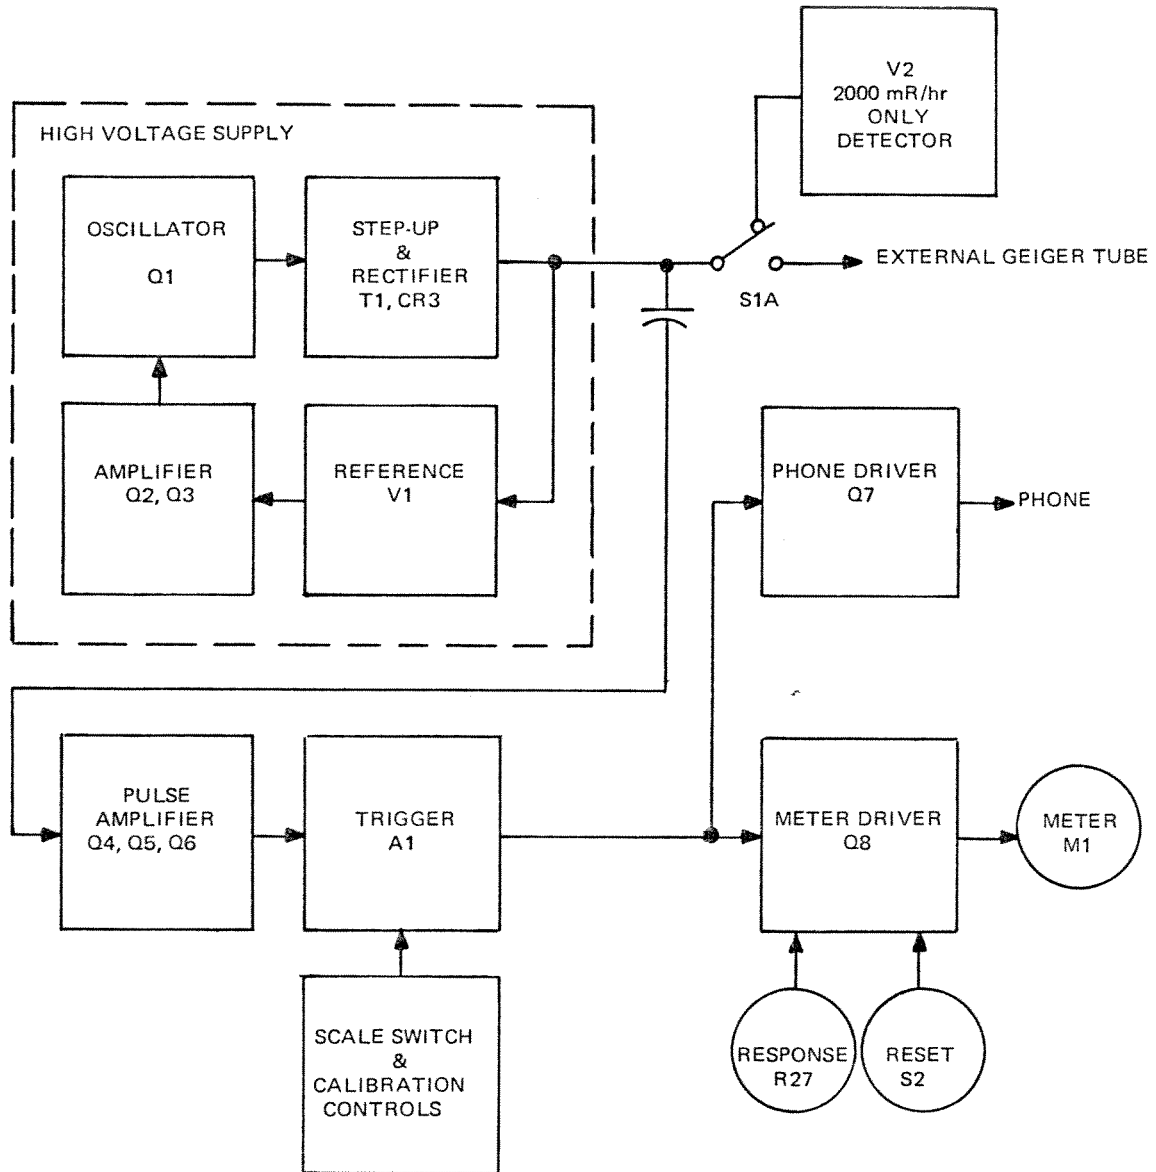

Figure 3-1. System Block Diagram
B. FUNCTIONAL THEORY (See figures 3-1 and 6-1)